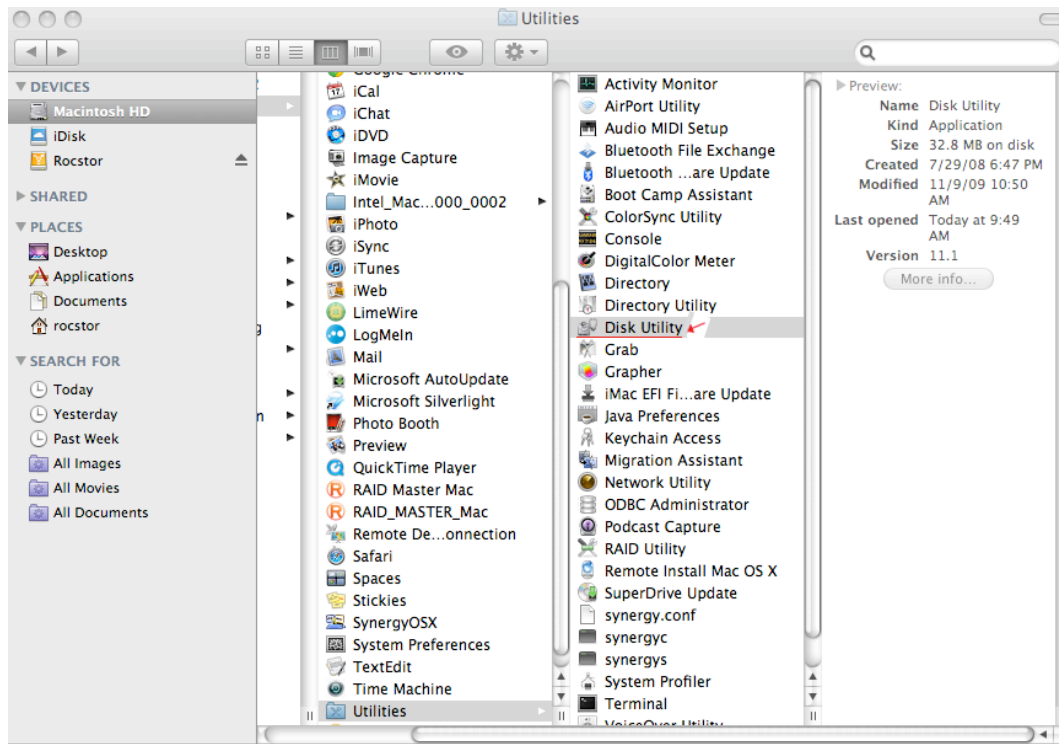

Figure 4.0
6. In the “Utilities” menu, click on the “**Disk Utility**” icon (figure 4.0.)